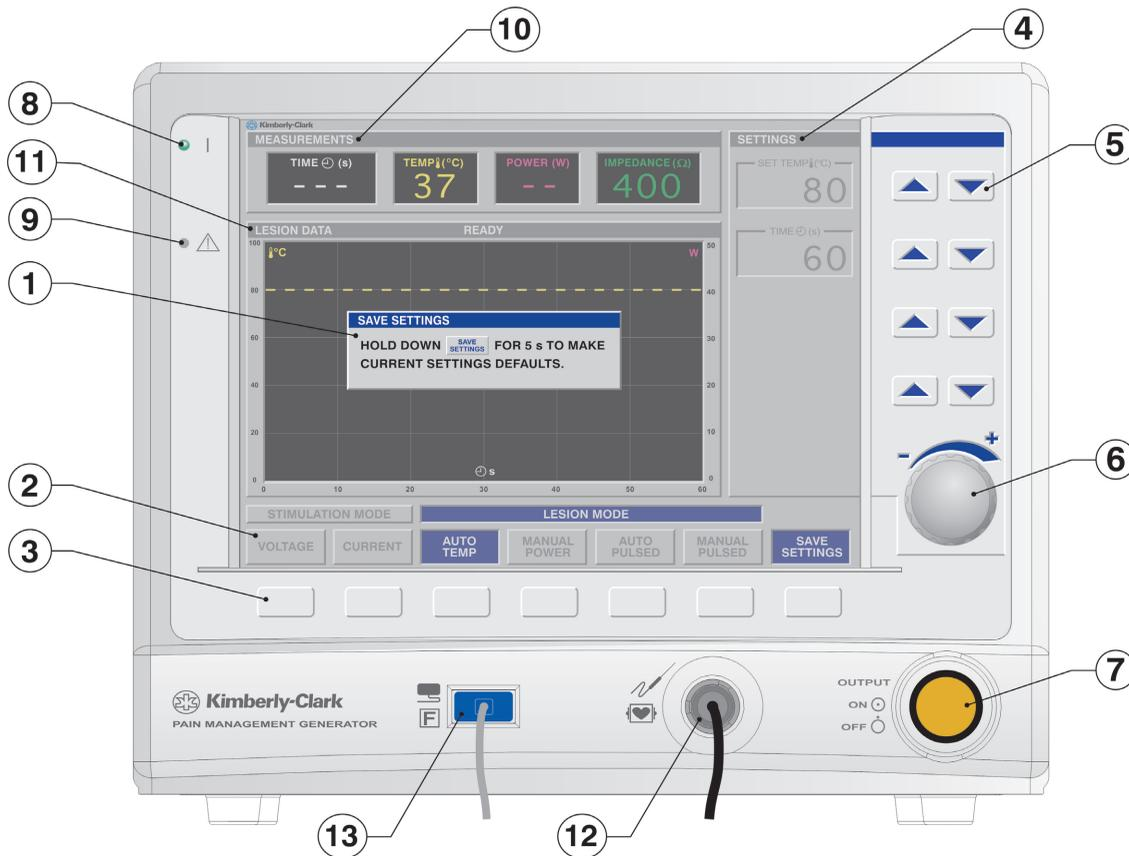

Figure 5-1 Generator front panel
- Descriptions of front panel features and their functions are given below. Please refer to *Figure 5-1* for location of each item on the front panel.
2. **Mode Function Labels:** These “labels” are part of the flat panel display and indicate the function of the associated Mode Function Key ③. Labels highlight to indicate the current operating mode. If no label is present, the associated button is not used in the present mode.
3. **Mode Function Keys:** These keys select and change the state of operation. For KIMBERLY-CLARK\* Pain Management Thermocouple RF probes, STIMULATION or LESION states are selected with a single press. In RFA mode, PLACEMENT or TREATMENT states are selected with a single press. In COOLED RF mode, STIMULATION or AUTO TEMP states are selected with a single press. In TRANSDISCAL mode, STIMULATION, PLACEMENT, or TREATMENT states are selected with a single press. The functions of these keys may vary between modes. The Mode Function Label ② above a key ③ always describes the key function.
4. **SETTINGS Window:** For each state (e.g., VOLTAGE STIMULATION, AUTO TEMP LESION, TRANSDISCAL TREATMENT, etc.), the adjustable settings are shown in the SETTINGS Window. Up to 5 SETTINGS are adjustable in each state, by using the Setting Adjustment Keys ⑤ and Rotary Encoder ⑥, to the right of the window.
5. **Settings Adjustment Keys:** The up ▲ and down ▼ buttons located to the right of the SETTINGS Window ④ are used for adjusting treatment settings in the upper 4 locations of the SETTINGS Window.